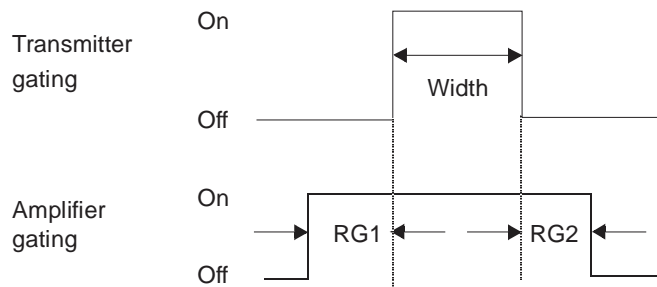

Figure 1. Amplifier Gating
- `RG1` is the delay during which any needed phase shift is performed and the linear amplifier is gated on and then allowed to stabilize prior to executing the rf pulse, and `RG2` is the delay after the pulse after gating off the amplifier. Thus, receiver gating is a misnomer: `RG1` and `RG2` set amplifier gating, as shown in Figure 1. The receiver is off during execution of the pulses and is only gated on immediately before acquisition.